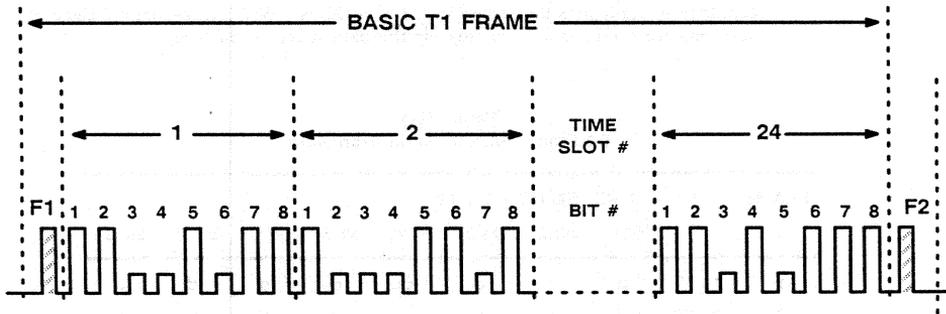
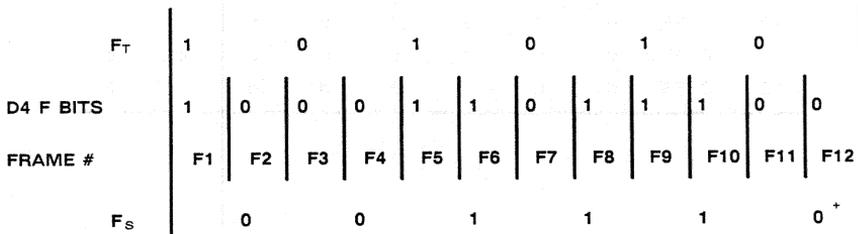

Figure 49-20 193-bit frame which serves as the component in both D4 and ESF extended framing formats.
Figure 49-21 D4 framing bits are always set to 100011011100. A yellow alarm is an exception: In this case, Bit 12 may be set to 1.
A D4 superframe contains twelve frames of 193 bits each; that is, $12 (24 \times 8 + 1)$, where 24 is the number of time slots, 8 the number of bits per time slot, and 1 the framing bit which precedes each component frame (see Figure 49-20 and Figure 49-21). In extended superframing (ESF), 24 of these 193-bit frames are contained within one superframe. Framing (F) bit patterns and in-band signalling (if employed) differ in the two schemes as illustrated in Table 49-1 through Table 49-2.